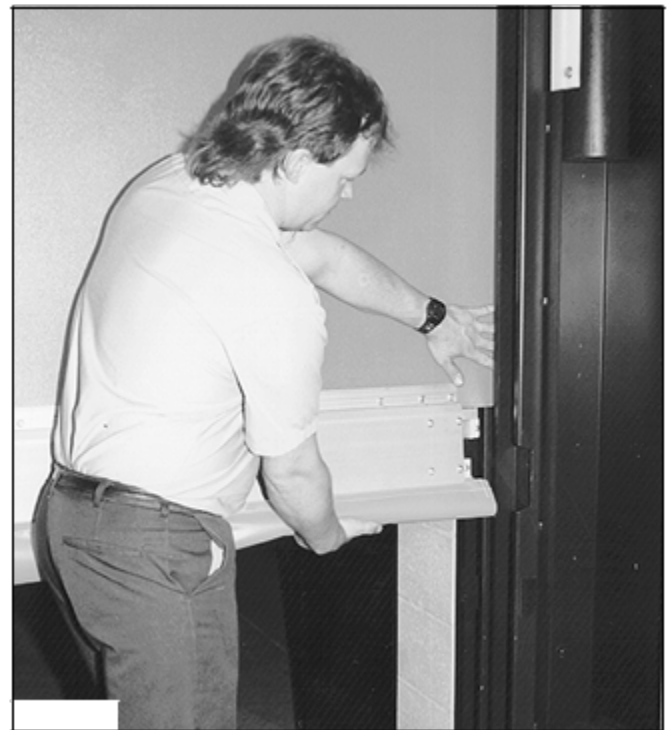

Figure 5
3. Slide the door panel fabric back between the seals in the side column. (See Figure 5)